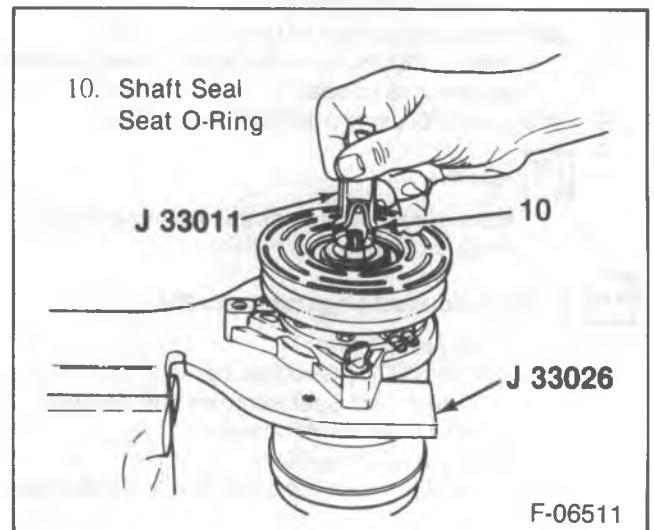

Figure 25 — Installing the Seal Seat O-Ring
- J 34614 onto the shaft (20).
1. O-ring seal using J 33011 (figure 25).